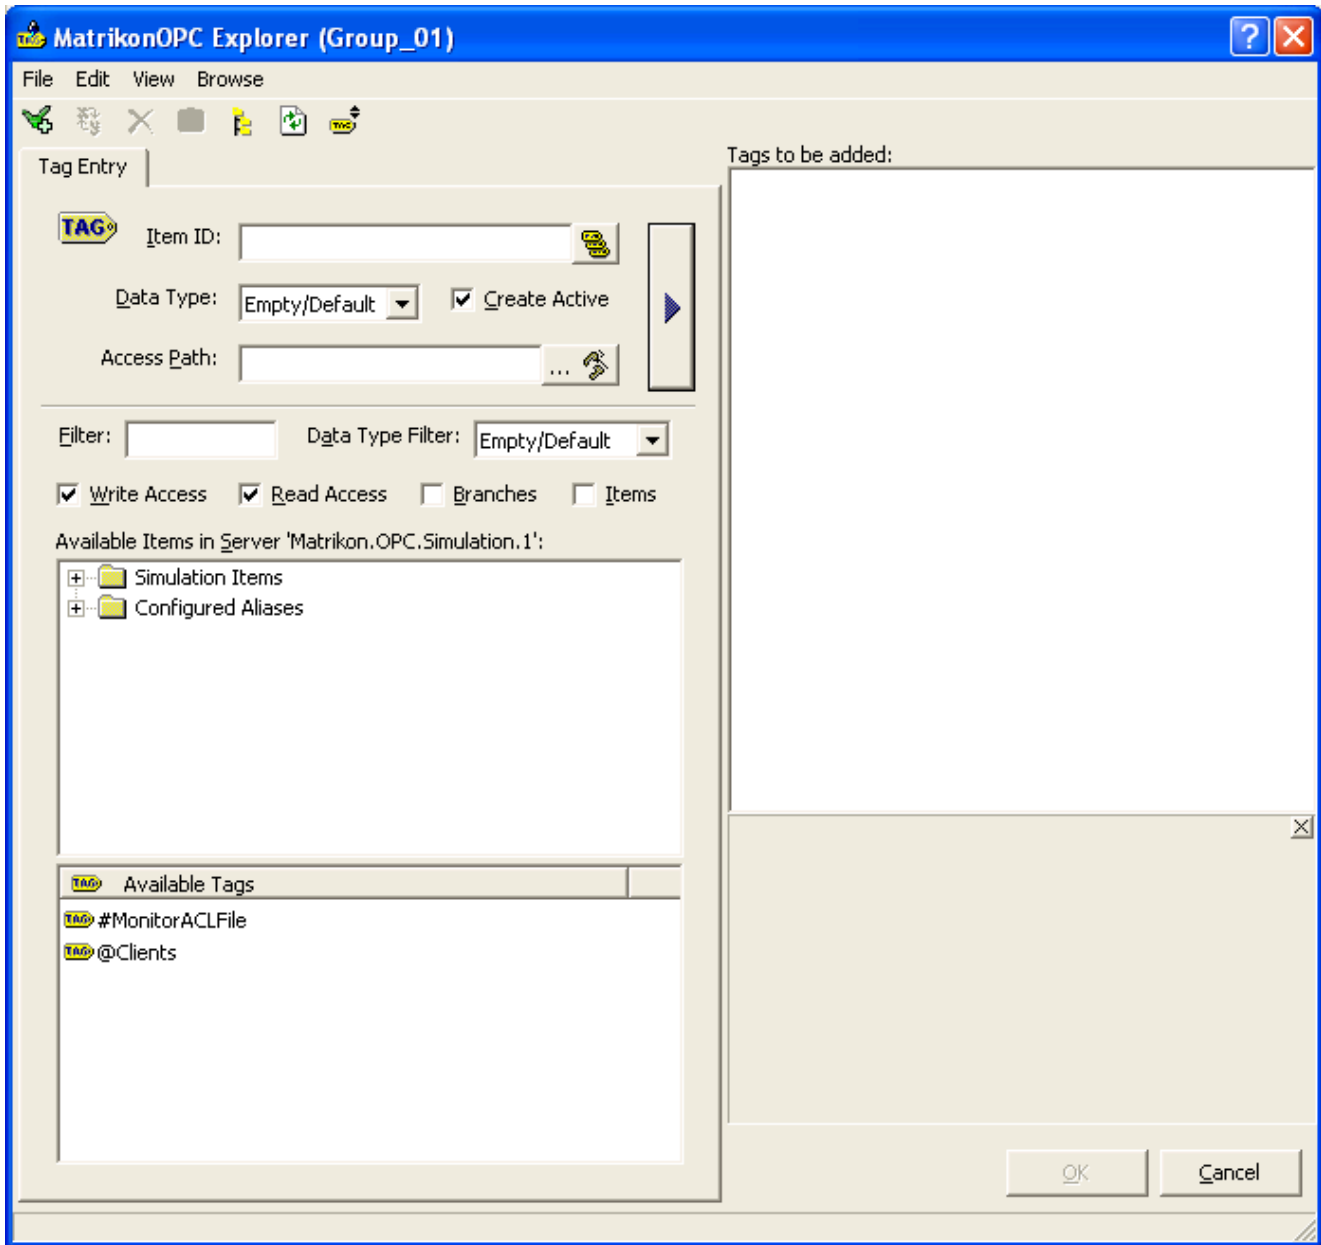

Figure 19 - Tag Studio
7. The **Tag Studio** (Figure 19) appears allowing you to add OPC items to your new group (refer to **Adding OPC Items**).
An OPC group serves as a logical collection of data items. The **Tag Studio** (Figure 19) is a utility for creating, validating, and adding OPC items.
3. The **Tag Studio** (Figure 19) appears.